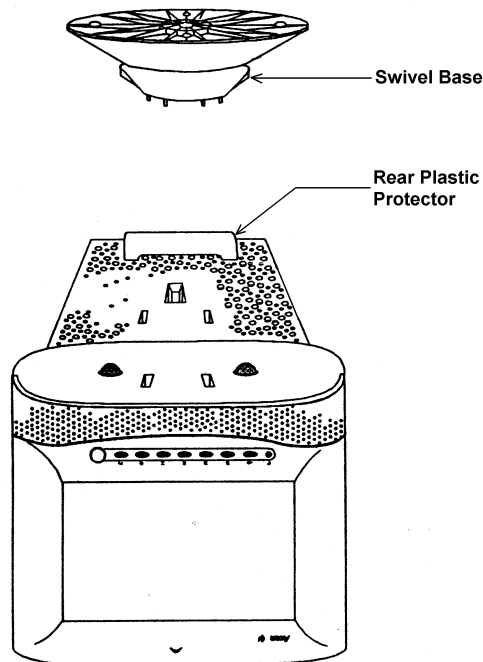

Figure 1, Monitor Bottom View
14. Remove the swivel base and the rear plastic protector from the ACER monitor and discard. Refer to figure 1, below. If you have a Sampo monitor, just remove the swivel base if attached.